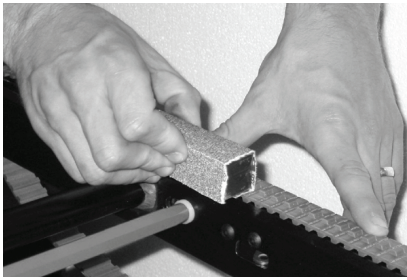
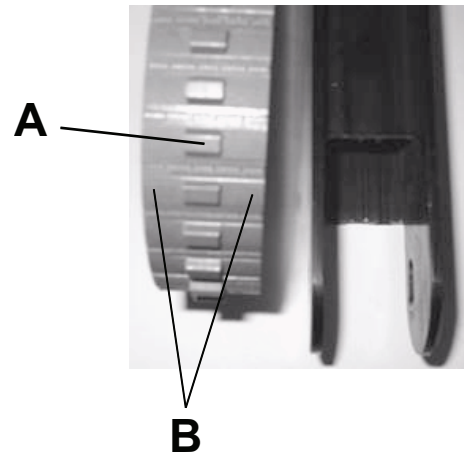

Figure 5 – Sand the wear surfaces
Figure 6 – Belt sanding surfaces
5. Using a sanding block with 50 grit sandpaper, sand both wear surfaces on the outside edges of each belt. The purpose is to roughen the surface of the belt just enough to remove the shiny spots caused by normal wear. Do not over sand the belts (Figure 5 and Figure 6).